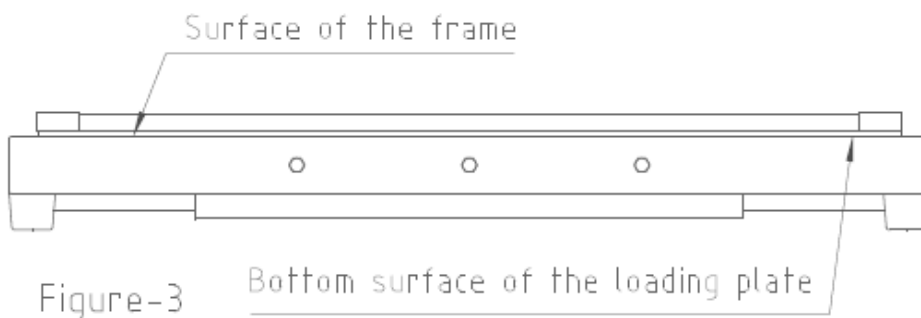

Figure-3
c. Pump air until the bottom surface of the loading plate becomes the same height with the top of the frame. (See Figure-3)